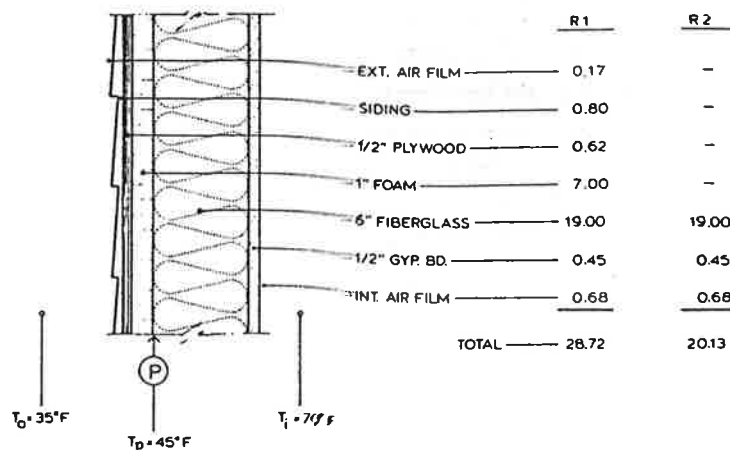

Figure 5 — Finding the Temperature at a Point P in a Wall
The following simple procedure can be used to calculate the temperature at any point (P) inside a wall (see Figure 5).
2. Calculate the R-value of the wall from the inside air to the point (P) that you are interested in. Call this R2.
For this example, we need to find the temperature of the foil when the indoor temperature (T_i) is 70°F and the outdoor temperature (T_o) is 35°F. The R-values are taken from Figure 5.